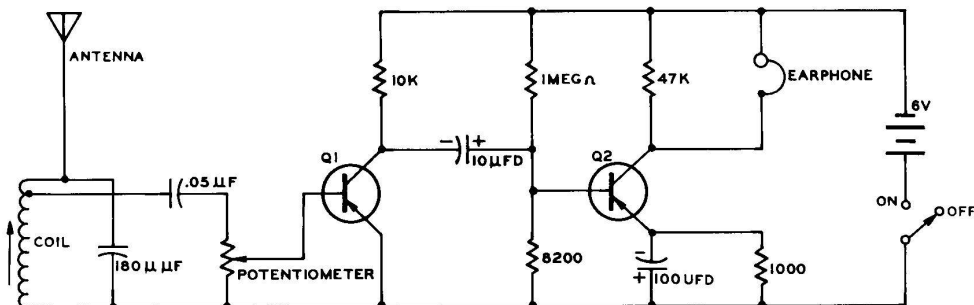

Figure 7L
Refer to Figure 7L for the following steps.
- () Connect a length of hookup wire from lug 2 of the 100 K Ω potentiometer (S) to lug 5 of terminal strip B (S).
- () Connect a length of hookup wire from lug 2 of the remote terminal strip (S) to the #6 solder lug (NS).
- () Mount the coil mounting bracket in position between terminal strips A and B as it is shown in Figure 7L. Install two #6 x 3/8" sheet metal screws into the bracket from below the chassis to hold it in place.
- () Connect the green lead of the RF tuning coil to lug 1 of terminal strip B (NS).
- () Connect the red lead of the RF tuning coil to lug 5 of terminal strip A (NS).
- () Connect the black lead of the tuning coil to lug 6 of terminal strip A (NS).
- () Connect a .05 μ fd disc capacitor from lug 1 of the 100 K Ω potentiometer (S) to lug 1 of terminal strip B (S).
- () Connect a 10 K Ω resistor from lug 3 (NS) to lug 4 (S) of terminal strip B.
- () Connect a 47 K Ω resistor from lug 1 (S) to lug 3 (NS) of terminal strip A.
- () Connect a 1 megohm resistor from lug 2 (NS) to lug 3 (S) of terminal strip A.
- () Connect a length of hookup wire from lug 6 of terminal strip B (S) to lug 5 of terminal strip A (NS).
- () Connect a 1000 Ω resistor from lug 4 of terminal strip A (NS) to lug 5 of terminal strip A (NS).
In the experiment for this lesson you assembled and wired the two-transistor radio shown in the schematic of Figure 7L on your experimental chassis. The input signal was received by your antenna, and from there it went to the tuned circuit. The stations that you tuned in were connected from a wire part way down the coil, through the .05 μ f capacitor, to the volume control. From the volume control the signal was